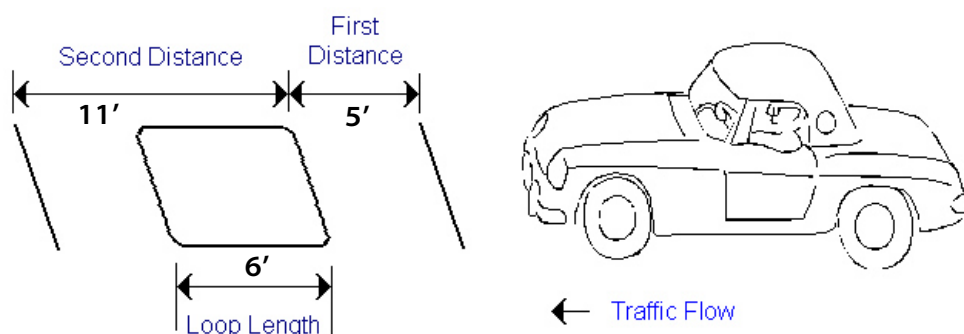

Figure 17 Sensor Setup example
The following is a scenario of a user who has a classifier to be tested with the ATRT-1700. The classifier's setup is axle-loop-axle with a loop length of 6 feet and distances of 5 and 11 feet between the sensors as shown below is Figure 17. Sensors used are piezos and loops on a 4 lane highway.
- 3) Fill in the distances between the sensors. The first distance is measured from the leading edge of the first sensor that the traffic will encounter to the leading edge of the second sensor that the traffic will encounter (5'). The second distance is measured from the leading edge of the second sensor that the traffic will encounter to the leading edge of the third sensor that the traffic will encounter (11'). The loop length is measured from one end of the loop to the other. (See Figure 17 above)